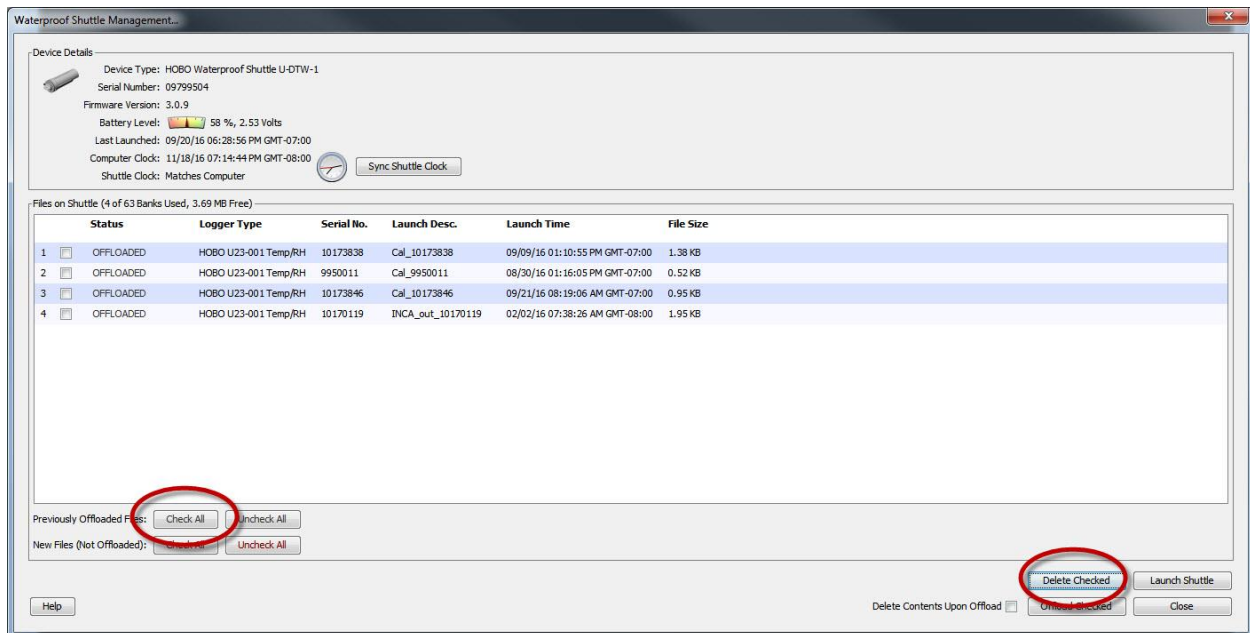

Figure 5-9. Waterproof Shuttle Management screen that appears after saving uploaded files and allows the shuttle to be deleted and cleared.
- After saving, the window below (Figure 5-9) will appear; this is where you will delete and clear the shuttle, but first check to see that the files were correctly saved.